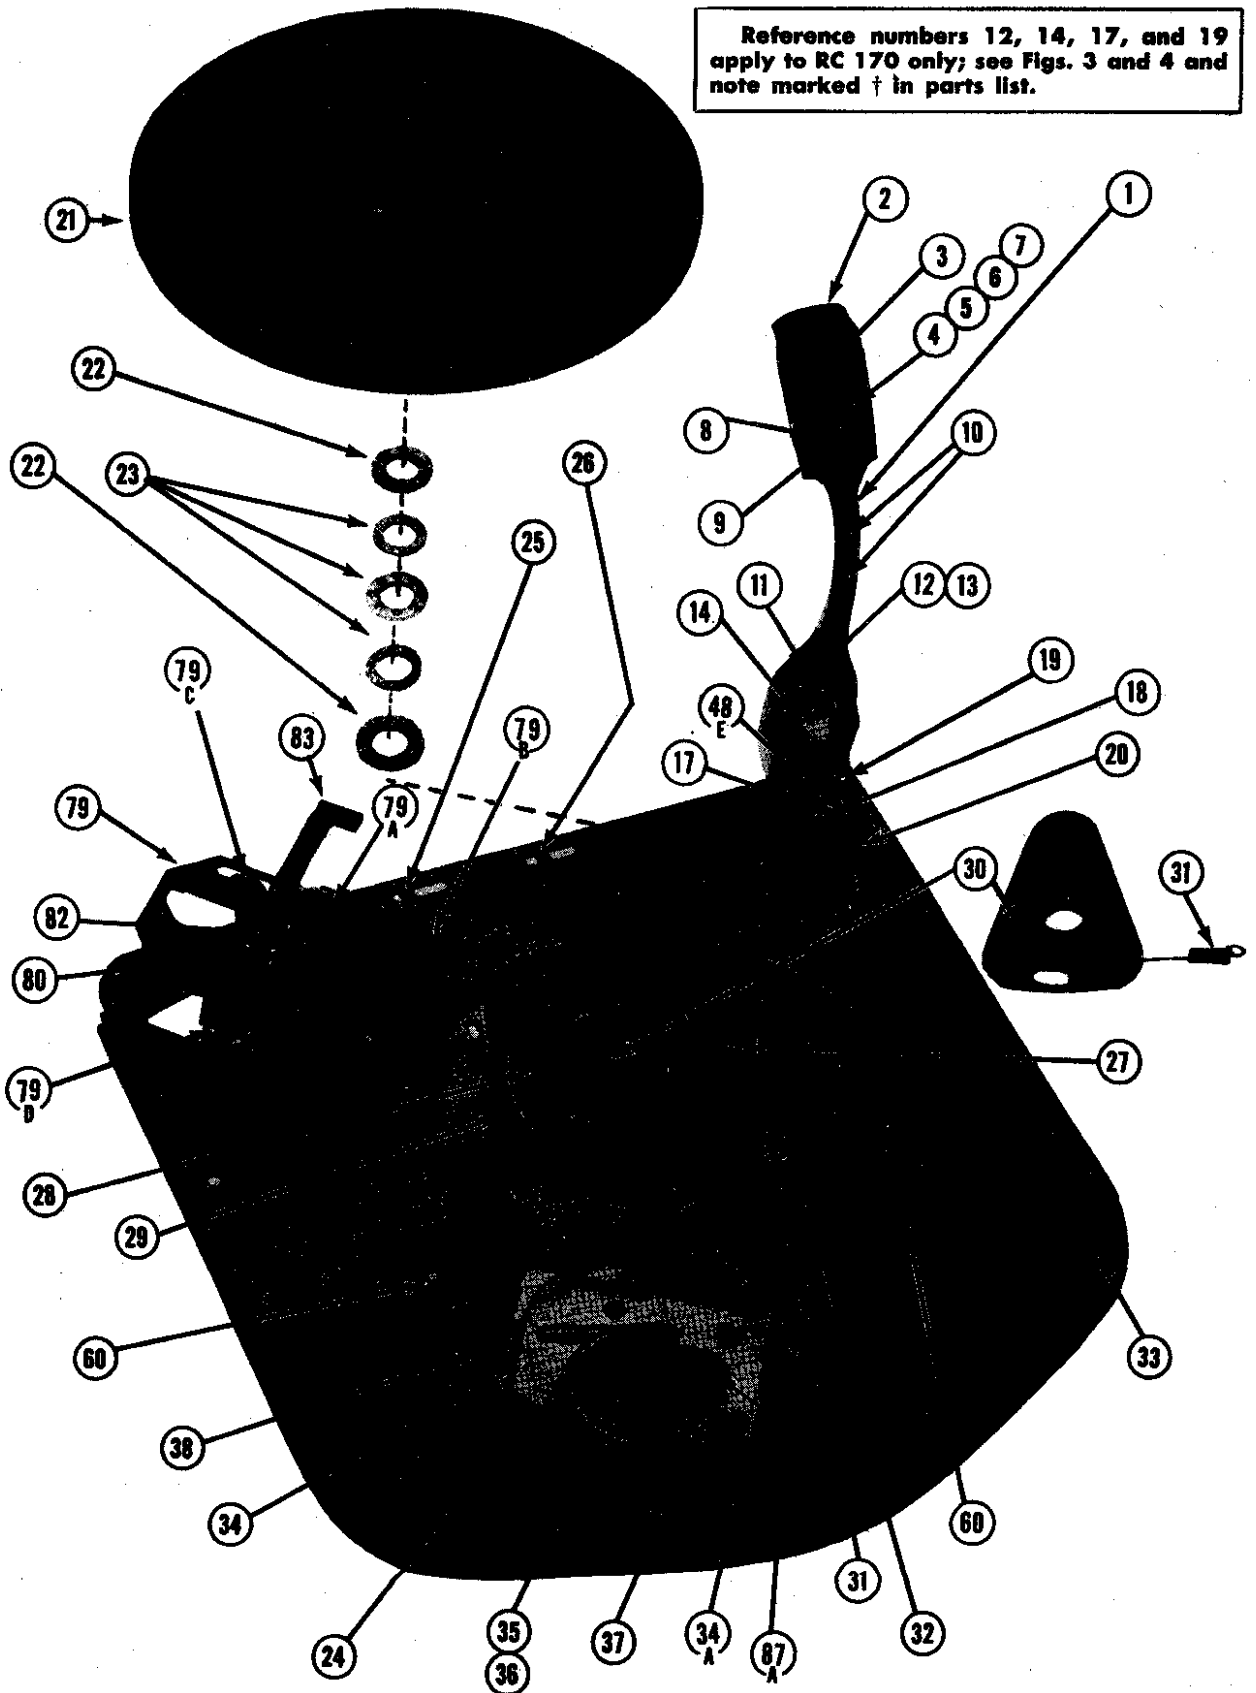

Figure 8. Top View of Record Changer
The changer operates as follows: The changer mechanism is driven during its change cycle by the knurled hub of the turntable rotating the rubber-tired drive wheel (28). During normal playing, the drive wheel is held in a neutral position as illustrated in Fig. 8 so that the indentation prevents the tire from contacting the knurled hub. The drive wheel (28) is held in this position by the trip lever (63) and the stop stud (65) on the main cam (66).
When a record has finished playing and the needle has reached the trip point, the arm control lever roller (48C, Fig. 7) makes contact with reject link (43A), moving the trip arm (43) which releases trip lever (63). The trip lever spring (62) moves trip lever (63) freeing cam stop stud (65) and allows spring (69) to pull the main cam clockwise (bottom view). Since the main cam (66) and the drive wheel (28, Fig. 8) are on the same shaft, the drive wheel is thus turned so its rubber tire is against the knurled hub of the turntable. The turntable now rotates the drive wheel (28) which in turn rotates the main cam (66). Roller (68), Fig. 7) riding on the main cam, moves arm control slide (52), and the raised portion (52A) of this slide raises arm lift shaft (This shaft is 19 on the RC170 and 103 on the RC170A.) which lifts pickup arm from the record. Stud (52C) moving with slide (52) pushes arm control lever (48A) causing the pickup arm to move to the right, clearing the record. The movement of roller (68) also causes trip lever (63) to re-engage in the recess of trip arm (43). Trip spring (61) holds the trip arm (43) and trip lever (63) together.
push-off plate 79A, Fig. 8. (Note that the record stack rests on plate 79A.) The shape of the main cam (66) is such that the push-off plate (79A) first moves back, allowing the bottom record to drop onto the record support plate (79B). Then the push-off plate (79A) slides forward and drops the next record to be played but only after the pickup arm has cleared the record stack. The little slide in the top end of the center post holds back all records other than the bottom one.
Adjust the 12-inch set-down with screw (25), Fig. 8. Turning screw (25) in (as seen through the left hand slot) moves the set-down point for 12-inch records further from the center post and turning the screw out moves it closer to the center post. The proper set-down point is between $5\frac{5}{8}$ " and $5\frac{1}{16}$ " from the needle to the near side of the center post.
The adjustment of the head assembly (79) is made by loosening the three screws, 85, (underneath the changer) and moving the assembly closer or further away from the center post as the case may be. The head assembly is in proper relationship to the center post when it is set with a dimension of $4\frac{7}{8}$ " from the front edge of the record support plate (79B, Fig. 8) to the rear of the center post (side nearest the record support plate) and at a point on the center post of the same height as the record support plate. This dimension is taken with the changer set to play 10-inch records.